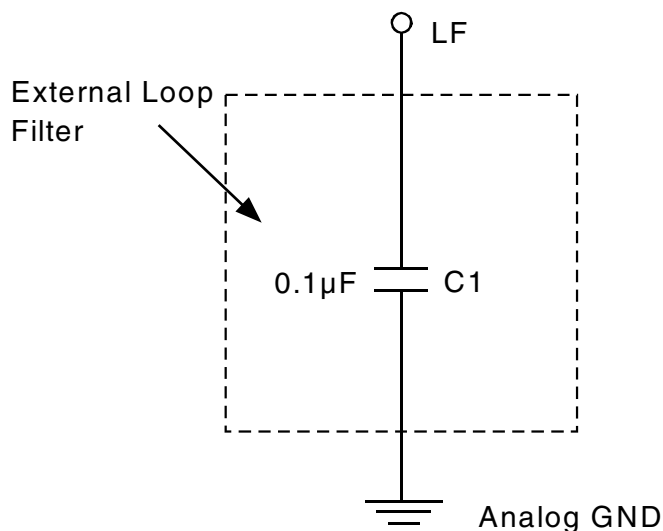

Figure 2. Loop Filter Connection
- Note 8 in "General AC Specification Notes" and Figure 2 describes this specification and its actual limits depending on the feedback connection.
- With V_{CC} fully powered-on and an output properly connected to the FEEDBACK pin. t_{LOCK} Max. is with C₁ = 0.1μF, t_{LOCK} Min. is with C₁ = 0.01μF (where C₁ is loop filter capacitor shown in Figure 2).
9. The **t_{PD}** spec describes how the phase offset between the SYNC input and the output connected to the **FEEDBACK** input varies with process, temperature, and voltage. The phase measurements were made at 1.5V. The Q/2 output was terminated at the **FEEDBACK** input with 100Ω to V_{CC} and 100Ω to ground. **t_{PD}** measurements were made with the loop filter connection shown in Figure 2 below: